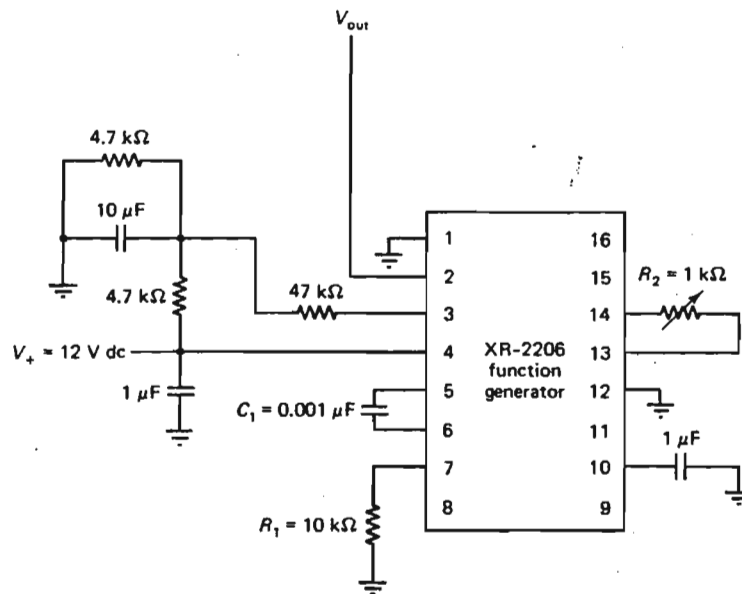

FIGURE 9-3 XR-2206 Function generator schematic diagram for measuring output frequency-versus-timing capacitance and output frequency-versus-timing resistance.
In this section the output frequency-versus-timing capacitance characteristics of the XR-2206 are examined. The schematic diagram for the function generator circuit used in this section is shown in Figure 9-3. With pin 9 open circuited, the VCO will produce an output frequency which is proportional to the timing capacitance C_1 between pins 5 and 6 and the input current to pin 7. The input current is produced by an internal bias voltage and a timing resistor R_1 placed between pin 7 and ground. If R_1 is held constant, the function generator output frequency is proportional to the capacitance of timing capacitor C_1 .
1. Construct the function generator circuit shown in Figure 9-3.
In this section the output frequency-versus-timing resistance characteristics of the XR-2206 function generator are examined. The function generator circuit used in this section is identical to the circuit used in Section B and shown in Figure 9-3. If the capacitance of timing capacitor C_1 is held constant, the function generator output frequency is proportional to the input current to either pin 7 or pin 8, which is a function of the resistance of timing resistor R_1 . Consequently, for a fixed capacitance C_1 , the function generator output frequency is proportional to the resistance of R_1 .